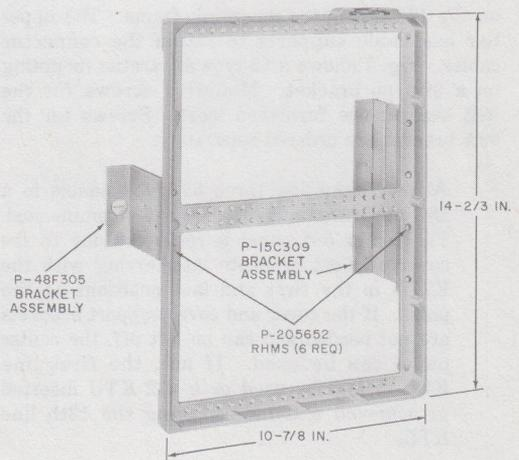

Fig. 4—31B Apparatus Mounting
2.05 The 31B apparatus mounting (Fig. 4) is a die-cast aluminum hinged framework comparable to the 31A apparatus mounting. Primarily used to mount panel-type 200-series KTUs, the 31B apparatus mounting is designed for use with the 177A backboard and can be arranged to open either to left or right. The unit can be protected with a 116A cover. The P-48F305 bracket assembly (contains Simmons fastener oval head stud No. 5), P-15C309 hinged bracket assembly, and associated fasteners must be ordered separately.